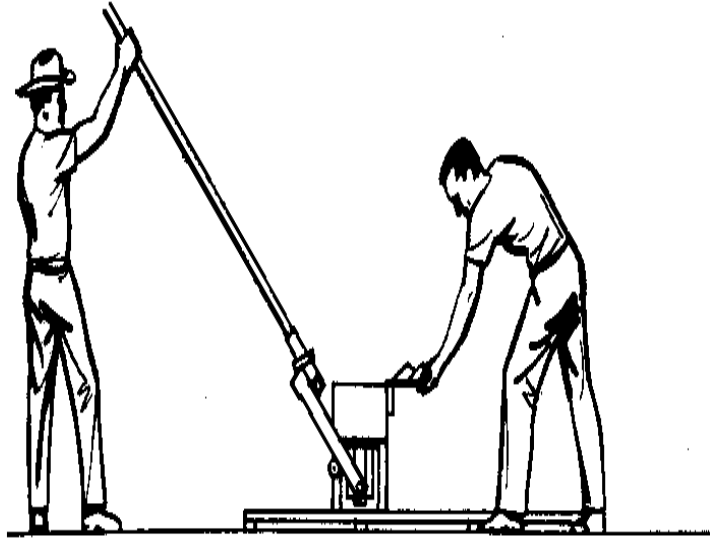

Fig. 11 - Returning the Lever to Rest
(10) Move the lever to a vertical position, engage the lever latch and return the lever to its rest position on the lower rollers.
(11) Open the cover (see Fig. 11).